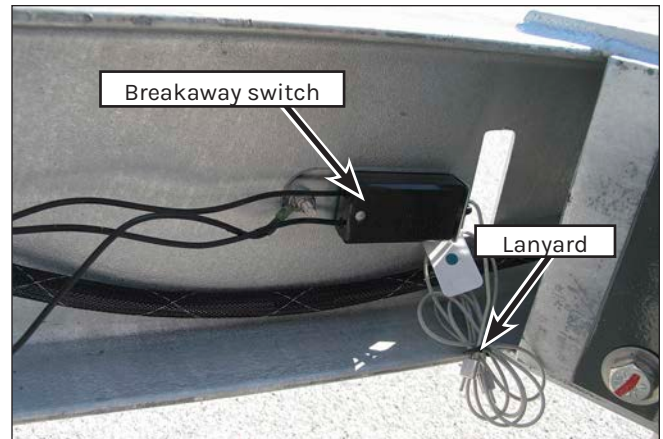

Figure 48: Breakaway Switch and Lanyard.
3. Pull the lanyard (Figure 48) from the breakaway switch and listen for the engagement of the brakes. Recheck the battery voltage. The voltage should be 1 or more volts lower than the previous measurement if the brakes are working. If the brakes could not be heard or if there was no change in voltage proceed to the next step.